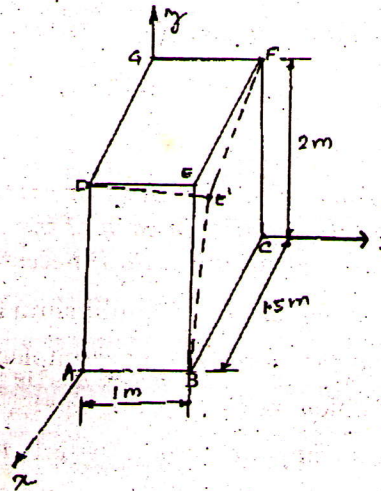

Fig. 3
2. (a) The parallelepiped shown in Fig. 3 is deformed into the shape indicated by the dashed straight lines (Small displacements). The displacements are given by the following relations  $u = C_1 xyz$ ,  $v = C_2 xyz$  and  $w = C_2 xyz$ .